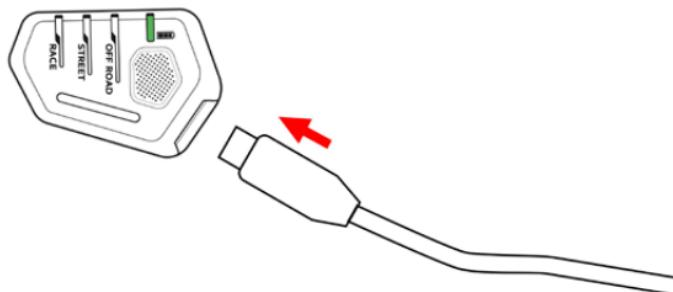

Figure 13: Battery Level LED (3d) Blinking during System Recharge
The System is supplied with a Type C USB Charging Cable (7). To charge the System, the User must connect the standard Type C USB Charging Cable (7) supplied with the System to the Type C USB Charging Port (3e) present on the LED Display (3). Once on charge, the LED Display (3) will show different blinking colors in the Battery Level LED (3d) as shown in Figure 13, according to the description provided in Section 8, "LED Display (3) Indications Summary." Fully charge the System before its first use.